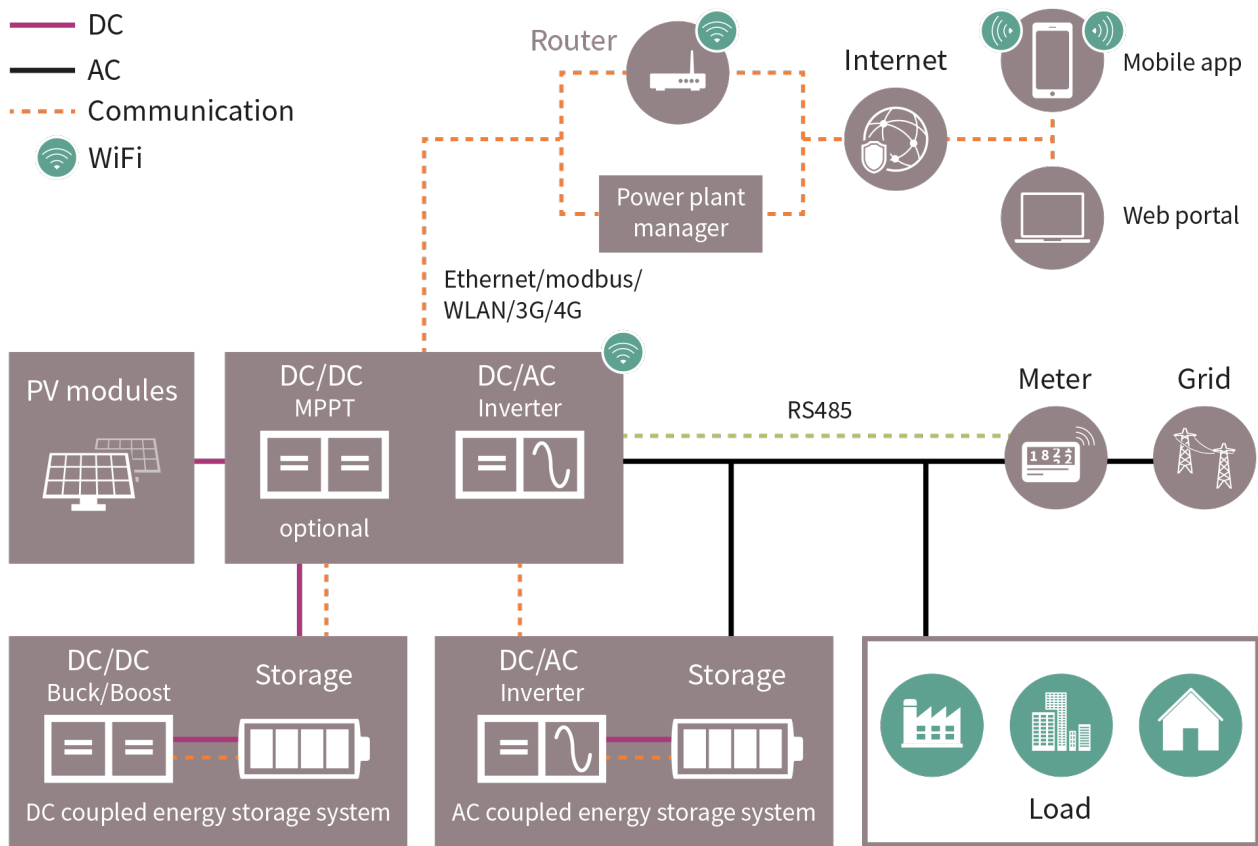

Figure 2: An example residential solar power installation with battery storage, EV integration and utility energy feed-in. Source: Infineon
power conversion, the electric vehicle (EV) battery can form another energy storage element for domestic use or even to feed back into the utility supply for cash credit. A typical installation might look like the one shown in Figure 2.